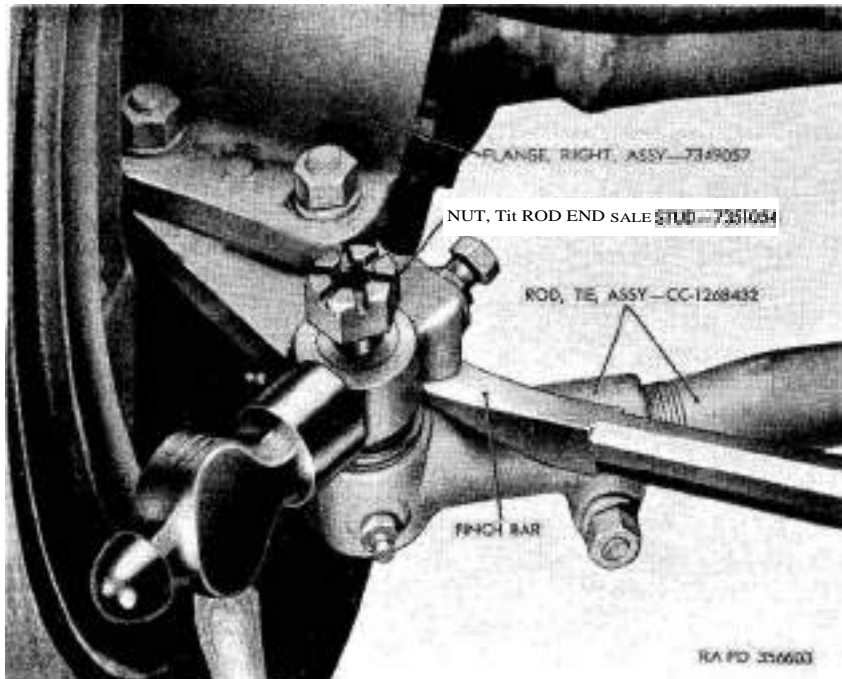

Figure 51. Removing tie rod end from flange assembly.
c. Remove Tie Rod Assembly. Remove cotter pins and loosen tie rod end ball stud nuts, but do not remove nuts. Insert pinch bar between tie rod and flange assembly. Apply pressure on pinch bar (*fig. 51*) and strike flange assembly with a hammer to loosen ball studs. Remove nuts, tie rod end dust covers, tie rod end dust cover washers, tie rod end dust cover springs, and tie rod assembly.